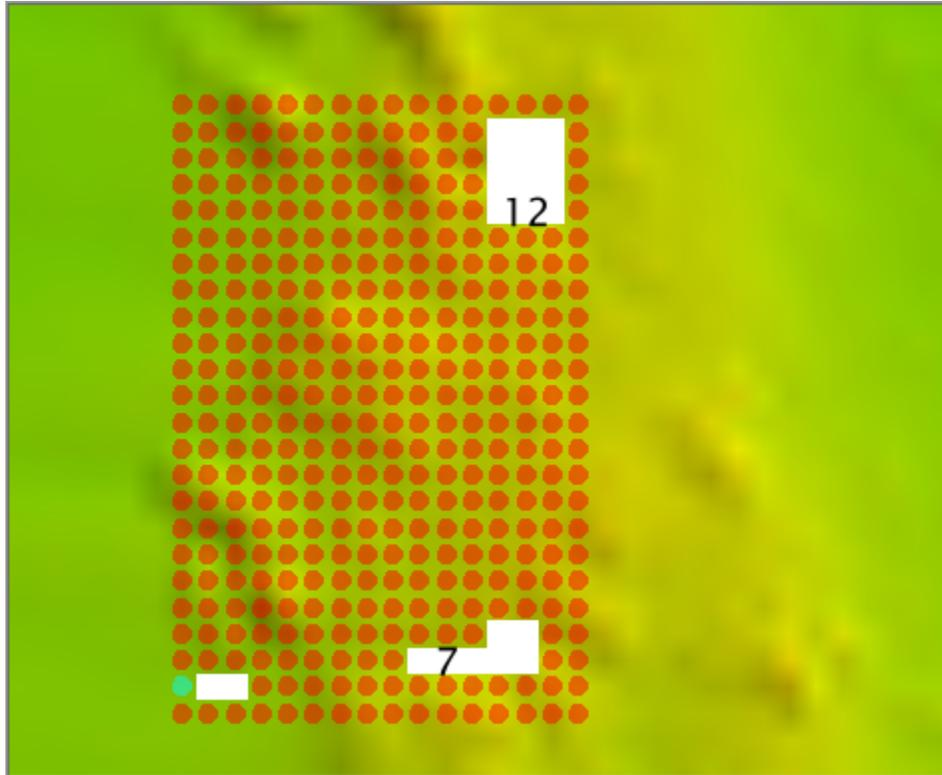

Fig. 2.14: Example for Object detection.
- In the example in (Fig. 2.14), Object Detection requirements identify the holes of 12 and 7 nodes, because each has 3 collinear, contiguous unpopulated nodes. The hole with 2 grids does not.